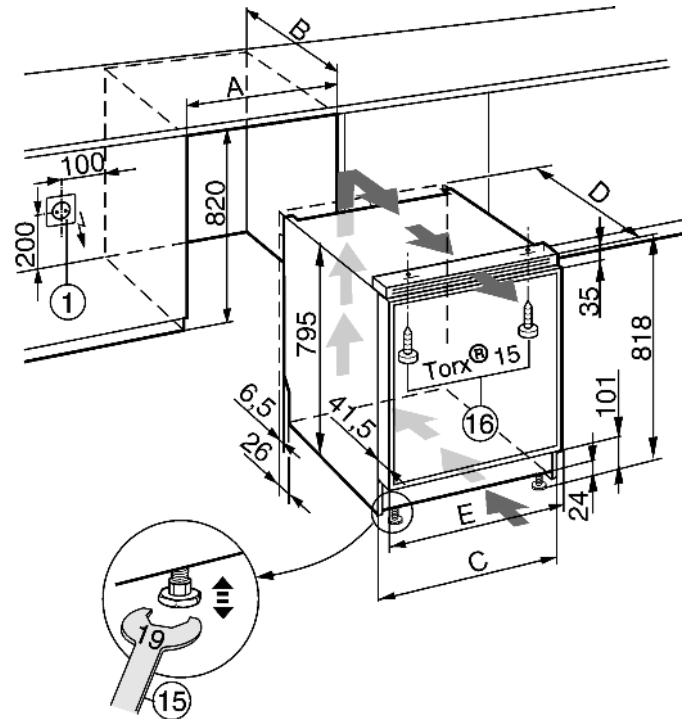

Fig. 12
- The socket outlet Fig. 12 (1) must be adjacent to the appliance and readily accessible.
- Align the appliance by applying the accompanying open-ended spanner Fig. 12 (15) to the height-adjustable feet.
- Fasten the top of the appliance to the worktop or to the furniture unit using the accompanying screws Fig. 12 (16).